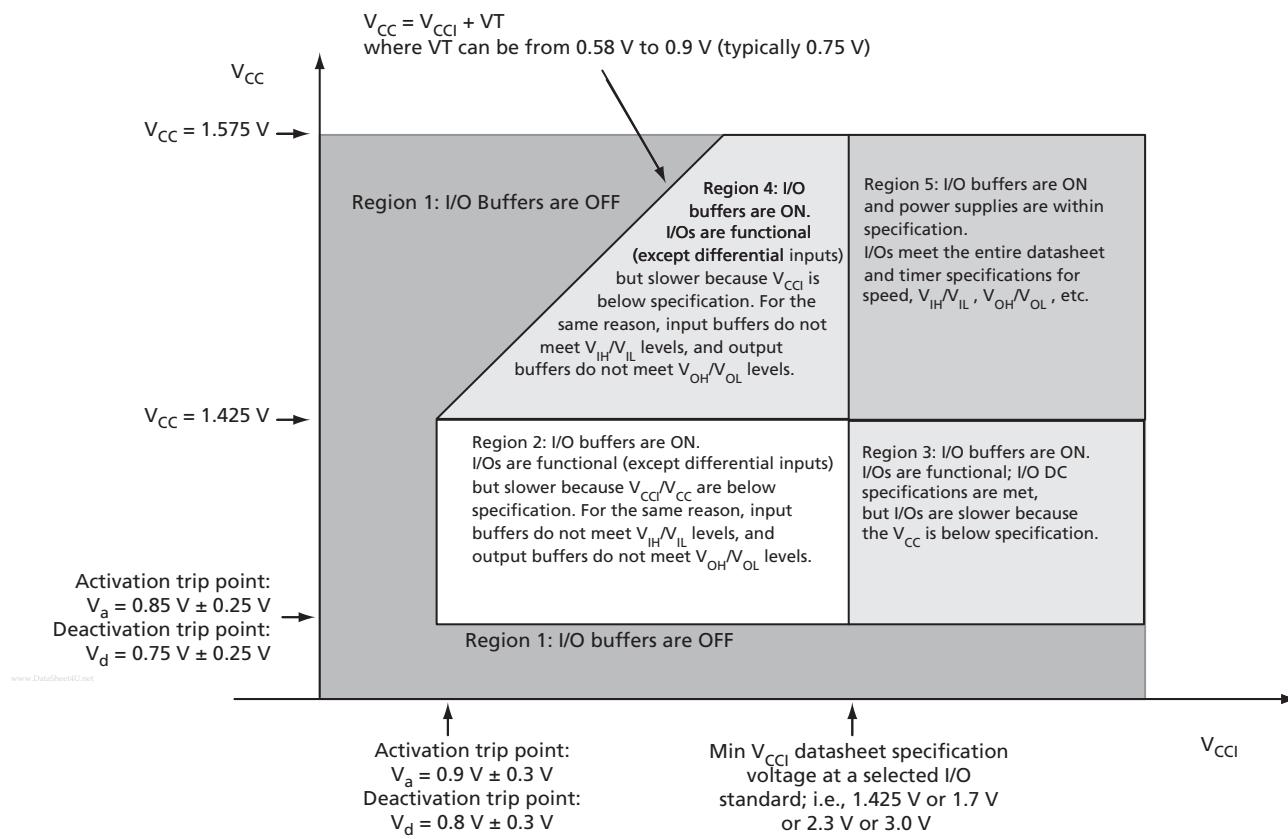

Figure 2-1 • I/O State as a Function of V_{CCI} and V_{CC} Voltage Levels
Sophisticated power-up management circuitry is designed into every ProASIC®3E device. These circuits ensure easy transition from the powered-off state to the powered-up state of the device. The many different supplies can power up in any sequence with minimized current spikes or surges. In addition, the I/O will be in a known state through the power-up sequence. The basic principle is shown in Figure 2-1 on page 2-4.
1. V_{CC} and V_{CC1} are above the minimum specified trip points (Figure 2-1 on page 2-4).
Actel recommends using monotonic power supplies or voltage regulators to ensure proper power-up behavior. Power ramp-up should be monotonic at least until V_{CC} and V_{CCPLXL} exceed brownout activation levels. The V_{CC} activation level is specified as 1.1 V worst-case (see Figure 2-1 on page 2-4 for more details).